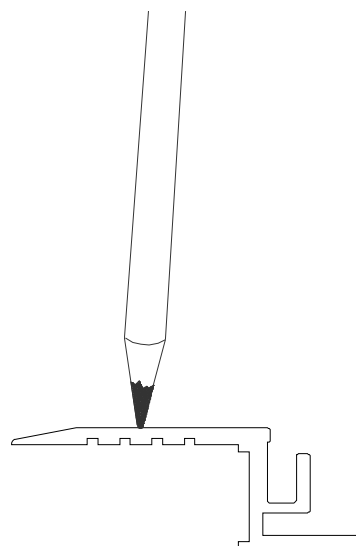
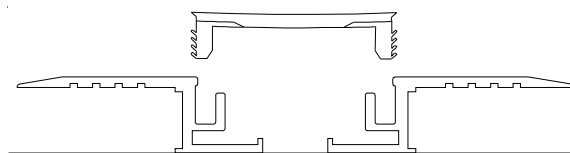
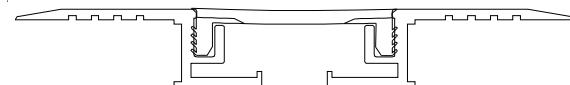

Figure 2
Figure 3
Figure 4
STEP 3. Select a section of the base member. If the anchor holes have not been predrilled in the base members at the factory, mark the locations for the anchor holes on the selected base member (see Figure 4. Standard anchor spacing is 20" O.C. with an anchor at a nominal 3" from each end of the base member. Repeat marking of anchor locations for each section of the base member. If necessary, drill the anchor holes (countersunk) into the base members at the marked locations (see Figure 2).
STEP 7. Place the base members about the width of the elastomeric seal apart on a flat working surface. Ensure that the base members' channels are facing one another (see Figure 3). Insert one of the elastomeric seal's tabs into the channel in one of the base members. Ensure that the seal's tab is inserted completely into the channel. Insert the elastomeric seal's opposite tab into the channel in the opposite base member (see Figure 4). Ensure that the seal's tab is inserted completely into the channel.